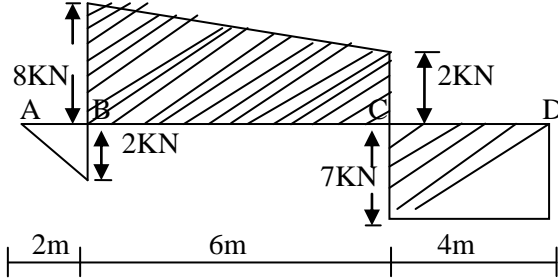

Figure 1
Q.3 a) Draw the moment and load diagrams for a beam corresponding to the shear diagram shown in figure 1. 12